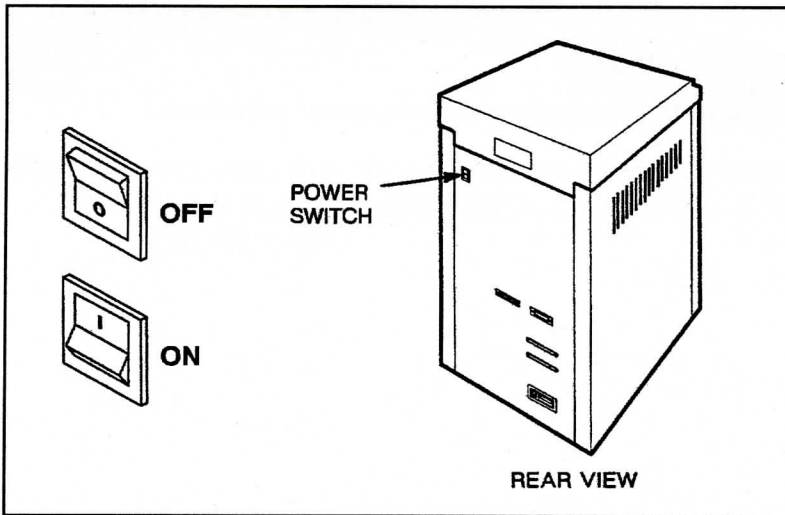

Figure 3.1 Power Switch Location
- Step 1: Locate the power switch on the rear panel (see Figure 3.1).